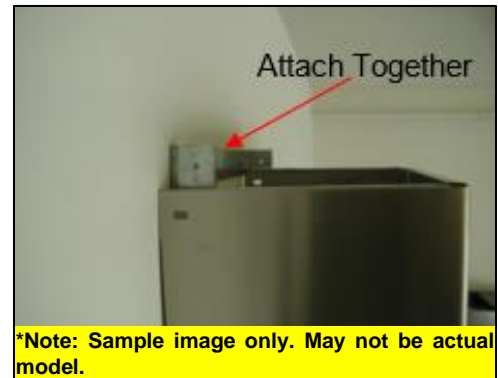

Figure 4
19. Secure inner duct cover with two 4*8 screws to the duct cover-mounting bracket. Shown in Figure 4.